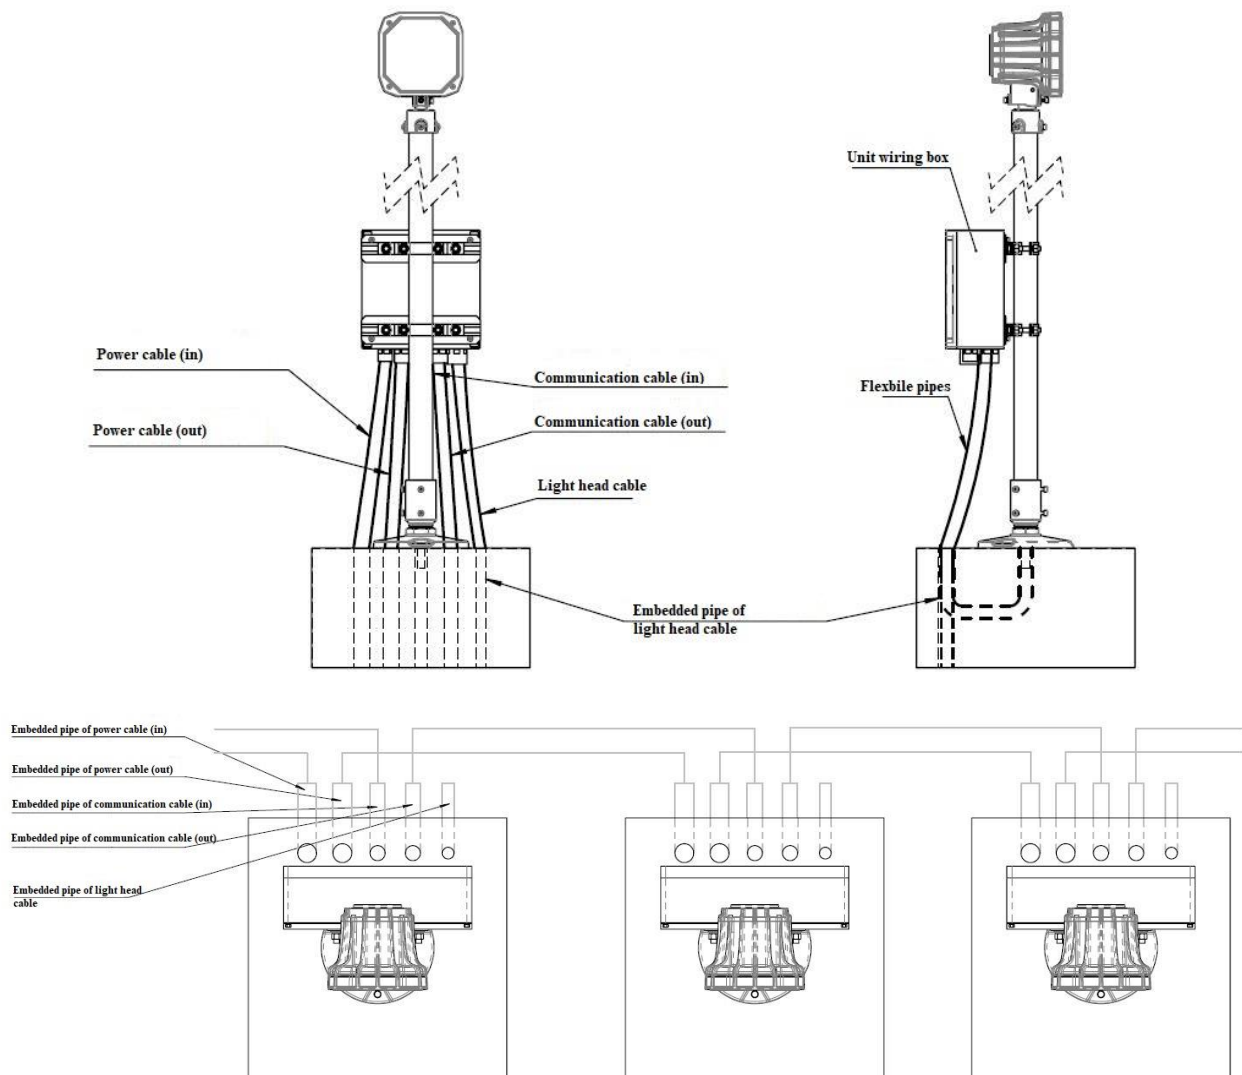

Figure 3.4 Cable Entry Diagram
- Install the unit wiring box on the extension pole of the light head (the installation hoop is equipped on the back of the unit wiring box, which may be used to fasten the unit wiring box on the extension pole firmly. The flexible pipe coupling is downward as shown in Figure 3.4). The installation height of the unit wiring box should first consider the convenience of maintenance and the manufacturer does not specify the height.